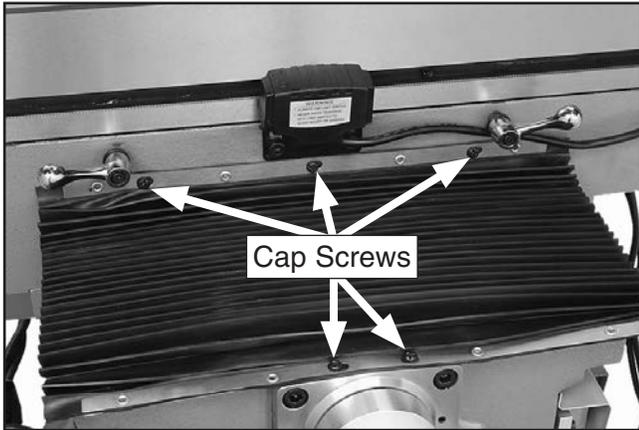

Figure 12. Front way cover installed.
5. Move table all the way back toward the column, then attach front way cover with the five pre-installed cap screws, as shown in **Figure 12**.